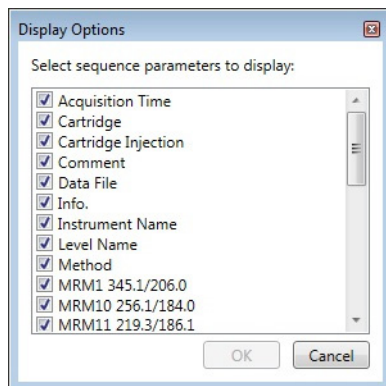

Figure 12. Display Options dialog box
- 3 In the Display Options dialog box, select or clear the check boxes for the sequence parameters to display. By default, all parameters are selected (**Figure 12**).